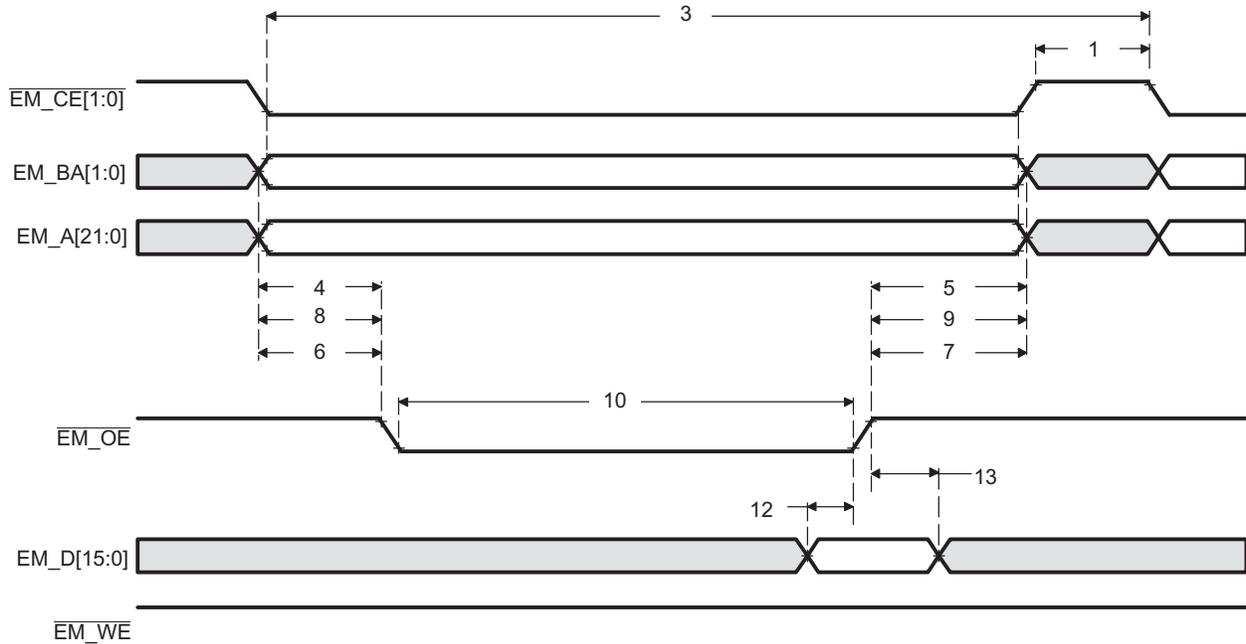
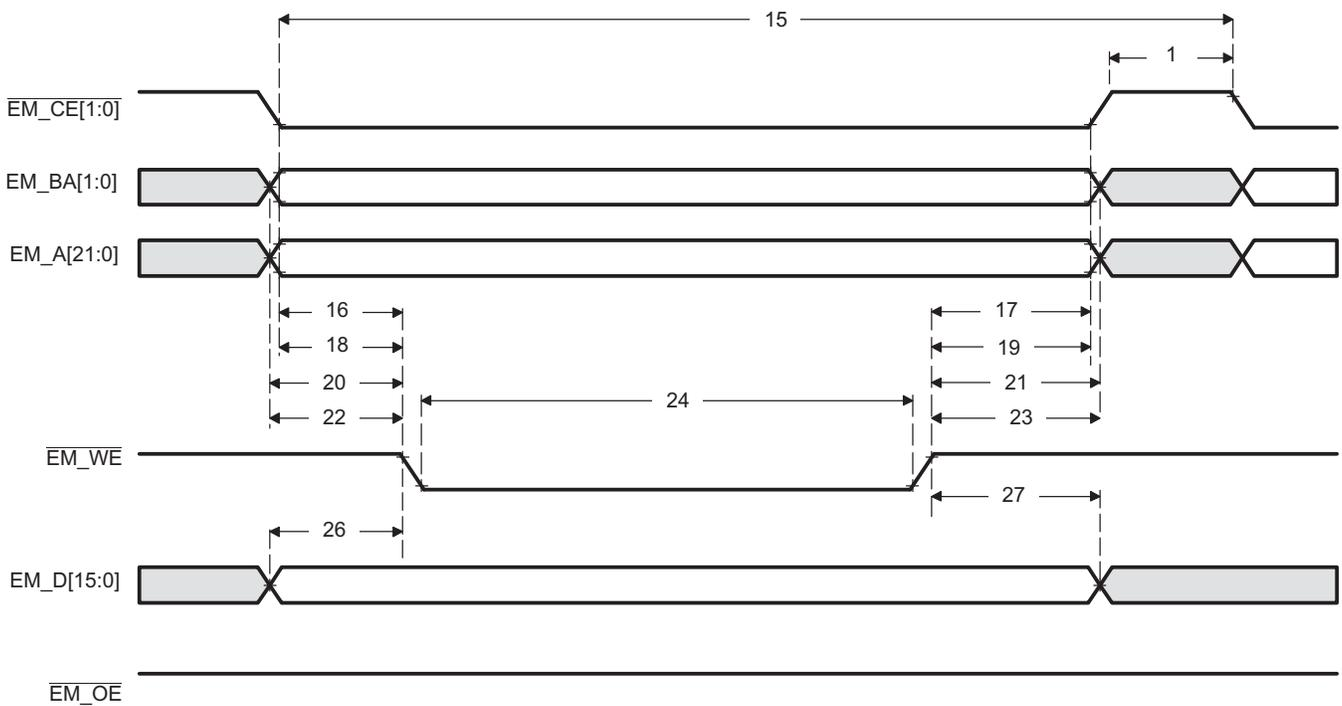

Figure 6-13. Asynchronous Memory Read Timing for EMIF
Figure 6-14. Asynchronous Memory Write Timing for EMIF
Table 6-21. Timing Requirements for Asynchronous Memory Cycles for AEMIF Module⁽¹⁾ (see Figure 6-13 and Figure 6-14)
Table 6-22. Switching Characteristics Over Recommended Operating Conditions for Asynchronous Memory Cycles for AEMIF Module⁽¹⁾ ⁽²⁾ ⁽³⁾ (see Figure 6-13 and Figure 6-14)
(1) TA = Turn around, RS = Read setup, RST = Read strobe, RH = Read hold, WS = Write setup, WST = Write strobe, WH = Write hold, MEWC = Maximum external wait cycles. These parameters are programmed via the Asynchronous Bank and Asynchronous Wait Cycle Configuration Registers. These support the following range of values: TA[4-1], RS[16-1], RST[64-1], RH[8-1], WS[16-1], WST[64-1], WH[8-1], and MEW[1-256]. See the *TMS320DM36x DMSoC Asynchronous External Memory Interface User's Guide* (SPRUFI1) for more information.
(3) EWC = external wait cycles determined by EM_WAIT input signal. EWC supports the following range of values EWC[256-1]. Note that the maximum wait time before timeout is specified by bit field MEWC in the Asynchronous Wait Cycle Configuration Register. See the *TMS320DM36x DMSoC Asynchronous External Memory Interface User's Guide* (SPRUFI1) for more information.
Table 6-22. Switching Characteristics Over Recommended Operating Conditions for Asynchronous Memory Cycles for AEMIF Module^{(1) (2) (3)} (see Figure 6-13 and Figure 6-14) (continued)